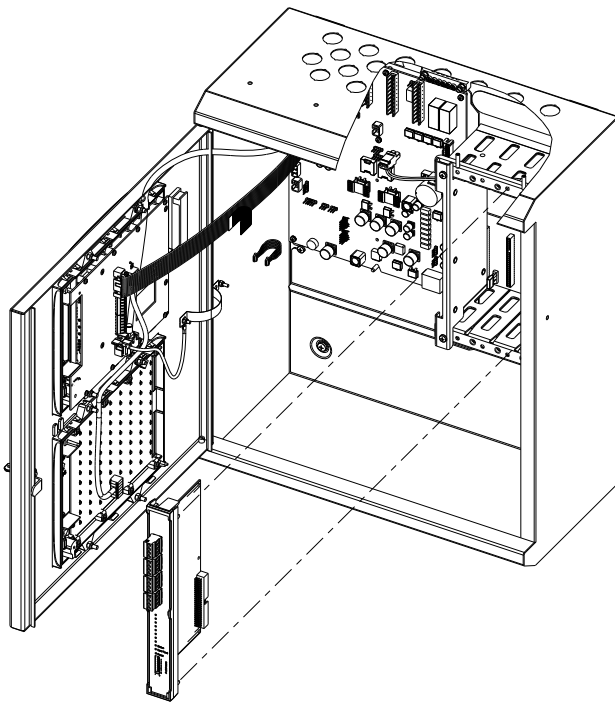

Fig. 22: Slot card installation
For a general impression of what is involved in mounting slot cards, see Fig. 22.
- 8 Insert the card into the appropriate slot in a slot card cage (see Fig. 22). This may be in the main panel housing, or in an expansion housing. See section "Obtain Slot Card Addresses". Push the card firmly until it clicks into place.
- 4 Insert the card into the appropriate slot in the slot card cage (see Fig. 22). This may be in the main panel housing, or in an expansion housing. See section "Plan Slot Card Arrangement". Push the card firmly until it clicks into place.